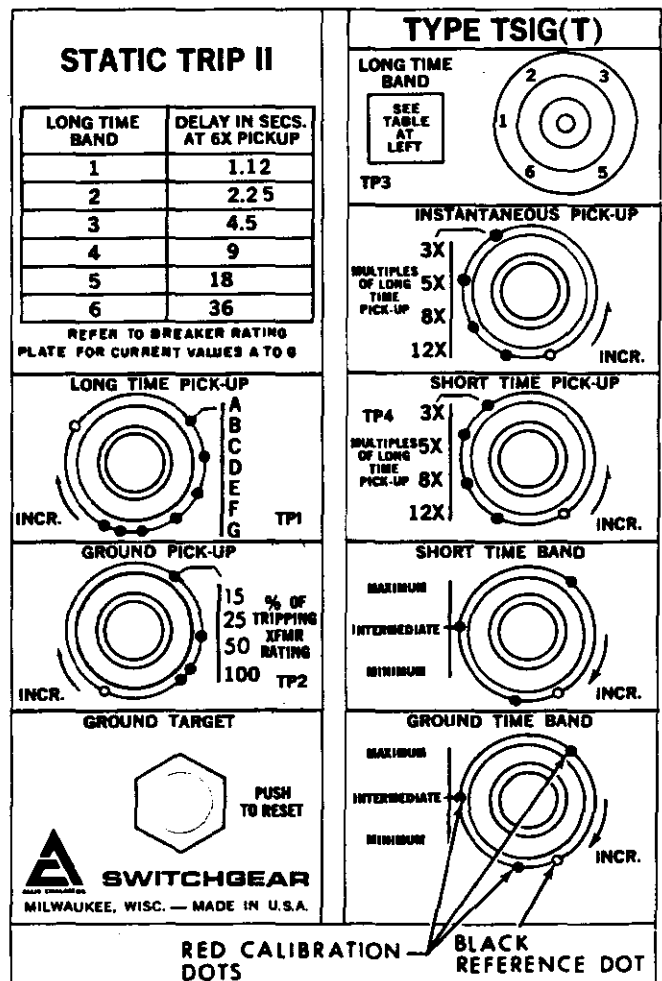

Figure 9. — Calibration Marks
Figure 9 is an illustration of the type TSIG(T) device which contains all Static Trip II control options. The following paragraphs discuss the calibration and use of these controls.